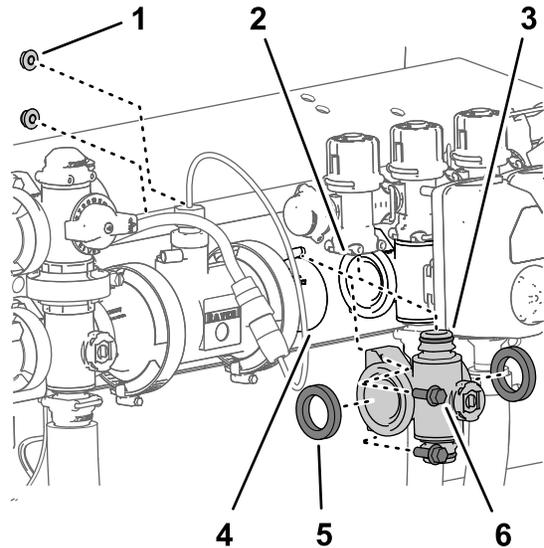
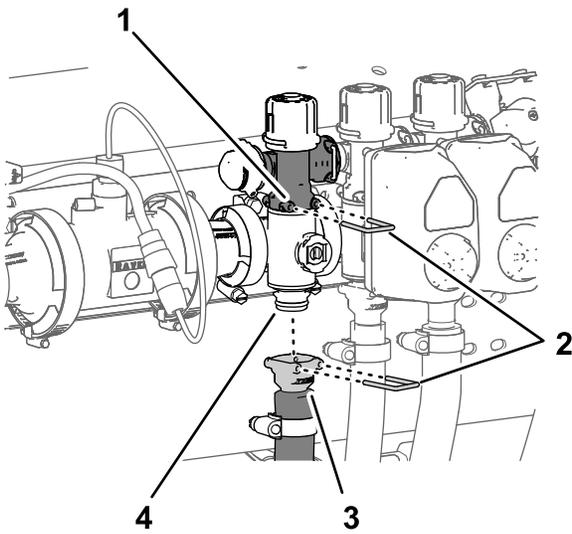

Figure 127
Figure 128
1. Align the 2 gaskets that you removed in Removing the Section-Manifold Valve (page 83) to the flanges of the section-valve manifold (Figure 127).
2. Align the flange of the section-valve manifold between the flanges of the other section-valve (s) and/or coupling adapter (Figure 127).
3. Assemble the quick-connect fitting of the section-valve manifold to the quick-disconnect socket of the section-bypass valve with a quick-connect pin (Figure 127 and Figure 128).
- For left or right section-valve manifolds, assemble the section-valve manifold to the valve support (Figure 127) with the 2 flange-head bolts (1/4 x 3/4 inch) and 2 flange locknuts (1/4 inch) that you removed in Removing the Section-Manifold Valve \(page 83\).
- Assemble the quick-connect coupler of the section hose onto the quick-connect fitting of the section-valve manifold with the quick-connect pin (Figure 128).